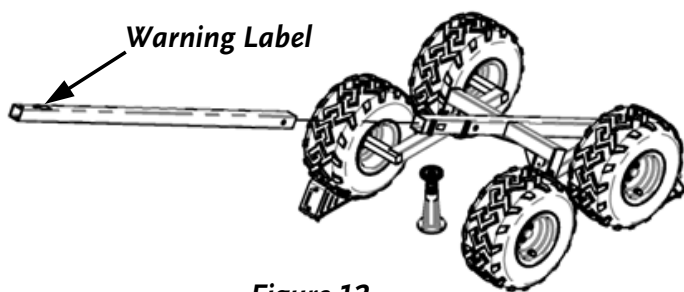

Figure 12
8. Slide the Tow Bar (with the Warning Label on top) into the Main Frame, lining up the Mounting Hole with the hole in the Main Frame (**Figure 12**). Gently allow the weight of the Tow Bar to force the front of the Main Frame down onto the Jack Stand.